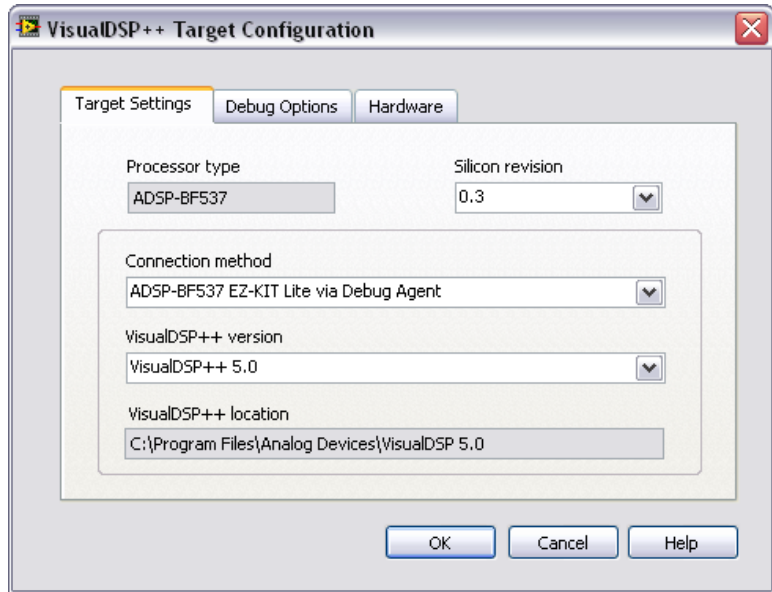

Figure 11. Configuring the Target Settings
1. Right-click **Analog Devices ADSP-BF537** in the **Project Explorer** window and select **Configure Target** from the shortcut menu to open the **VisualDSP++ Target Configuration** dialog box, shown in Figure 11.